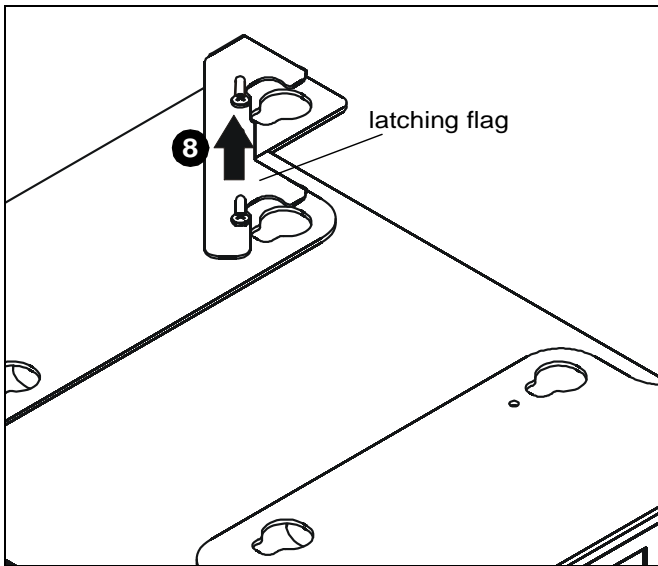

Figure 5
8. Move latching flag to the open position. (See Figure 5)